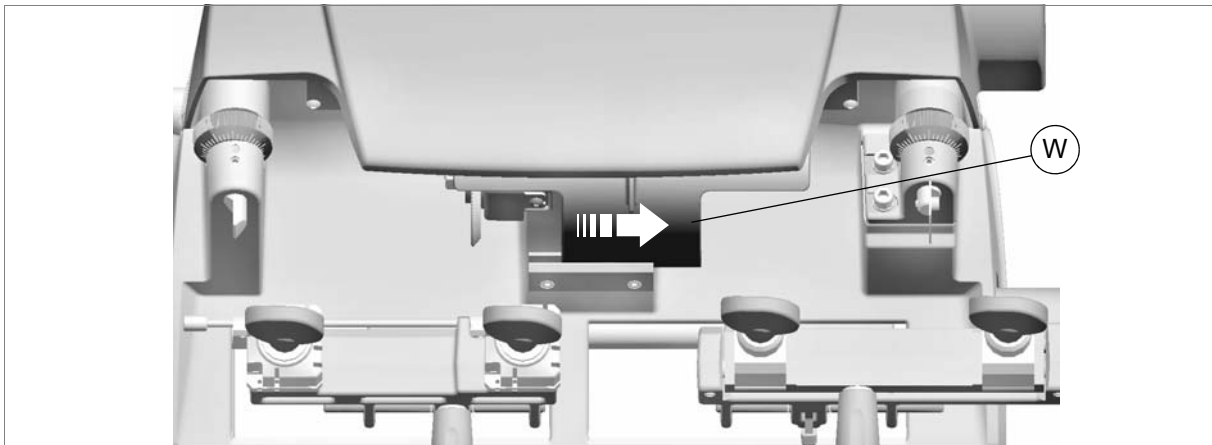

Fig. 11
- to operate the left-hand carriage, take shield (W) to the right (fig. 11)